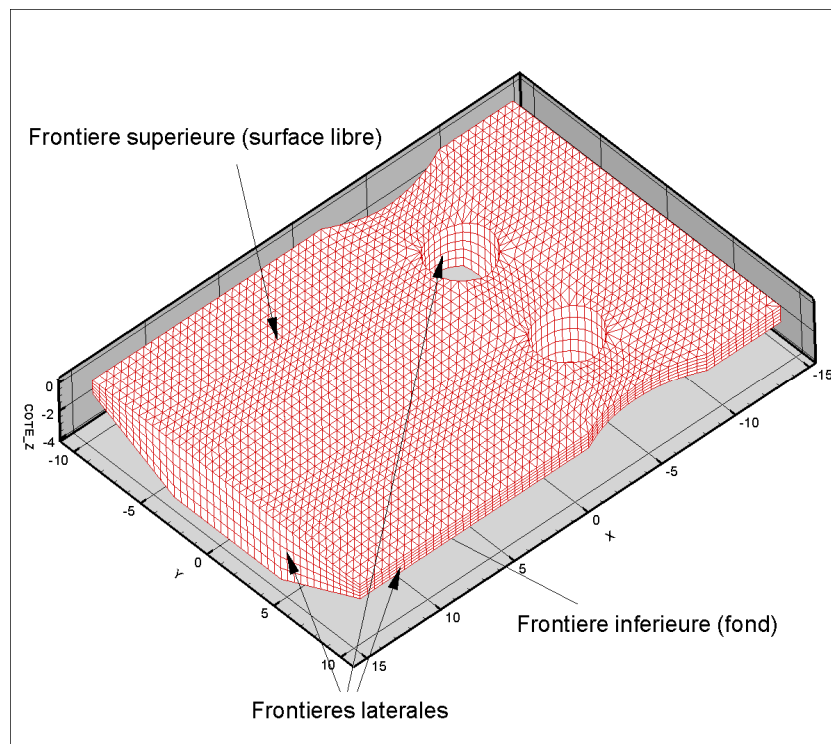

Figure 3 : The various boundaries in TELEMAT-3D (bridge piers case study)
- the points belonging either to the free surface or the bottom (refer to Fig. 3).